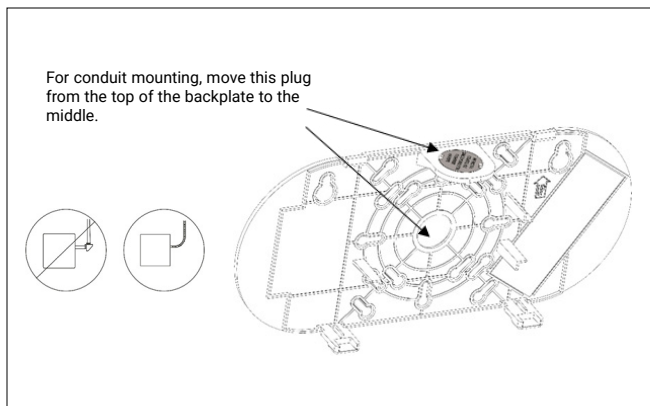

Figure 2
3. Relocate the plastic hole plug from the top flange on the backplate to the center opening of the mounting knockout pattern (see Figure 2).
4. Relocate the plastic hole plug from the top flange on the backplate to the centre opening of the mounting knockout pattern. (see Figure 2)